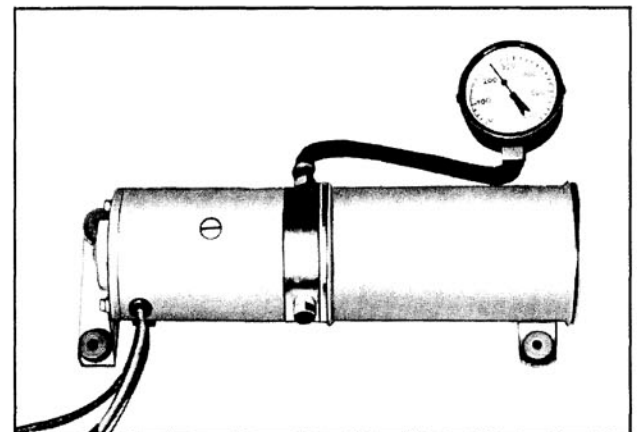

Fig. 16-426 Checking Pump Pressure
2. Install plug in one port, and pressure gauge in port to be checked. (Fig. 16-426)